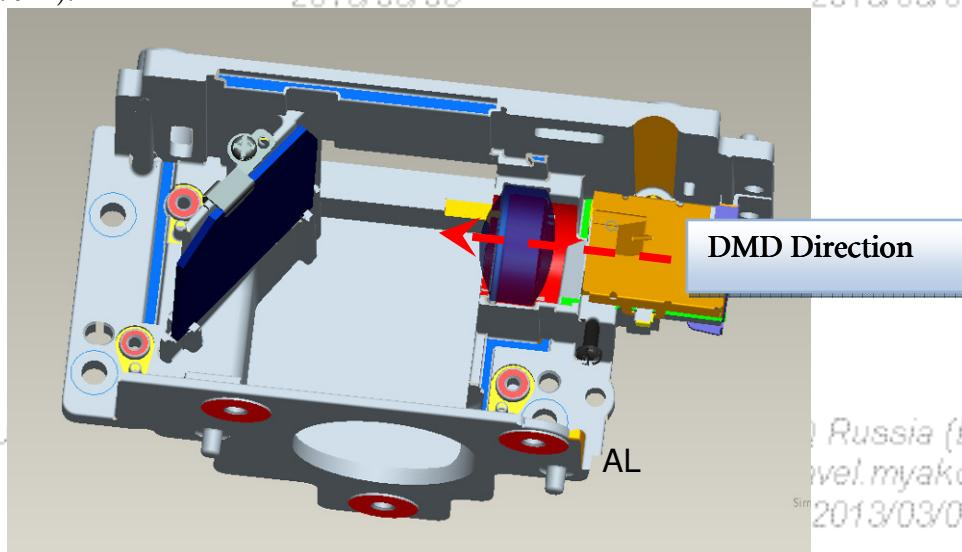

Fig. 3-1
3.1 Placed "AL" on the "HSG DMD". The "raised surface" of "AL" shall toward "DMD direction" (Fig. 3-1).